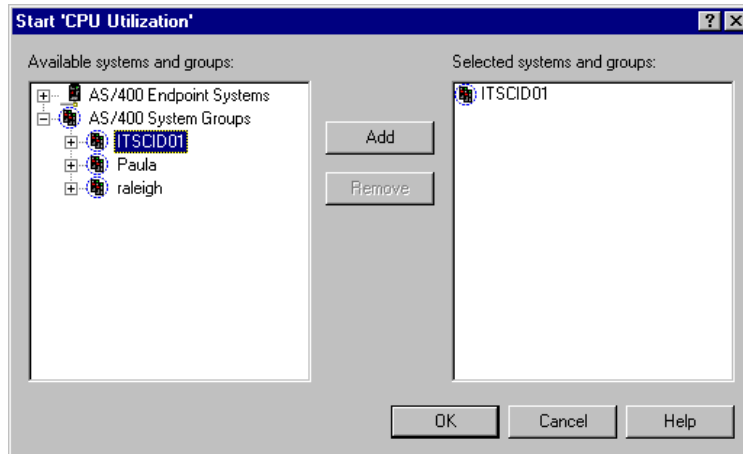

Figure 50. Start Monitor window
2. Select the systems or system groups on which you want to run the monitor. Click the **Add** button to include them. Click **OK**. As shown in Figure 50 on page 74, one system group, ITSCID01, has been selected this way.